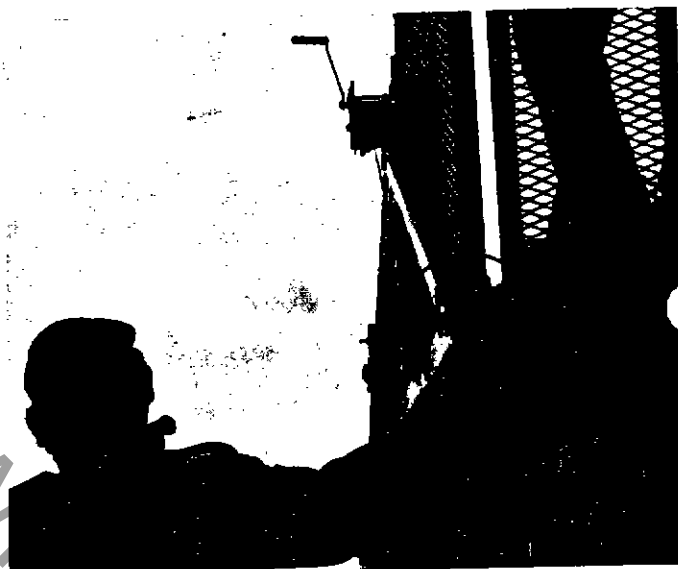

Fig. 18
- f. Working from the stepladder, *snap key all fence posts in place.* Insert the rear keys first. (Fig. 18)